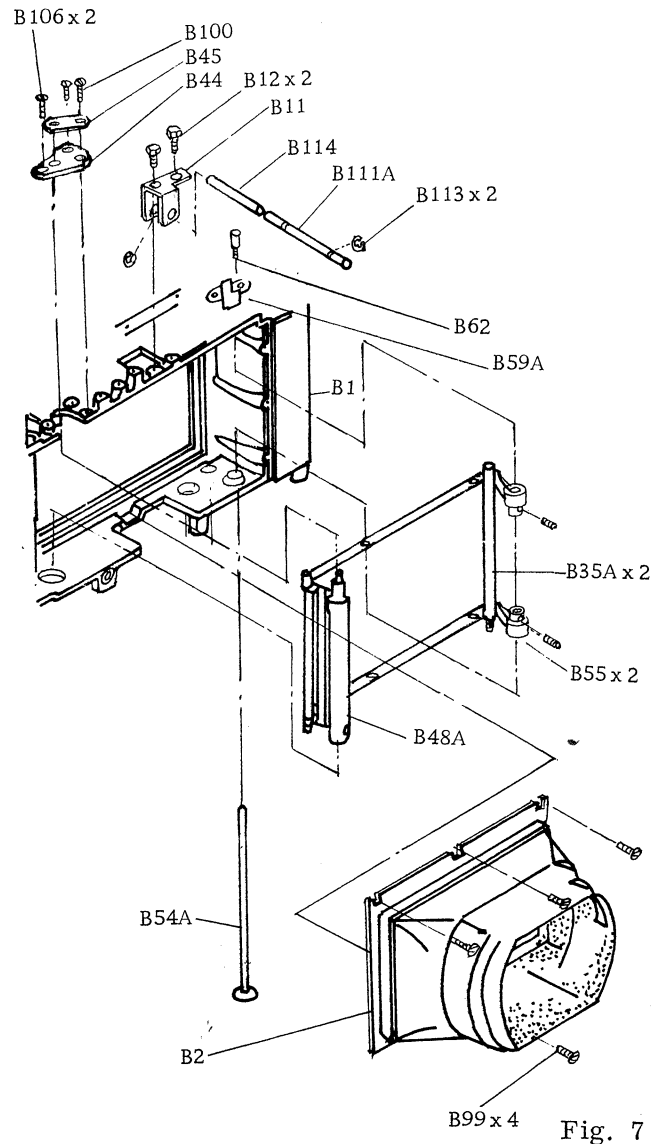

Fig. 7
- A. Peel off a part of the Moltplene (B110) at the upper side, and remove the light shielding hood installation screws (B99, 4 each). Remove the edge installation screws (B12, 2 each), and set free the edge (B11). (Fig. 7)
- B. E-clips (B113, 2 each) are installed on the range finder interlock rod (B111A). Remove the rear E-clip (B113), withdraw the range finder interlock rod (B111A) forward, with attention paid on the spring (B114), and remove the light shielding hood. (Fig. 7)
- C. Remove the set screw (B100), and holding down the control lever (B45), turn the lever slowly to the left to release the spring from the tension. (Fig. 7)
- D. Remove the set screw (B62) and signal lever (B59A), and loosen the shielding curtain installation collar (B53) set screws (B55, 2 each). Next, remove the shaft (B54) downward and remove the guide rollers (B35 and B36) from the openings on the body top. (Fig. 7 and 8)
- E. Remove the set screws (B106, 2 each), and remove the light shielding curtain (B48A) and the light shielding curtain shaft holder (B44). (Fig. 7)